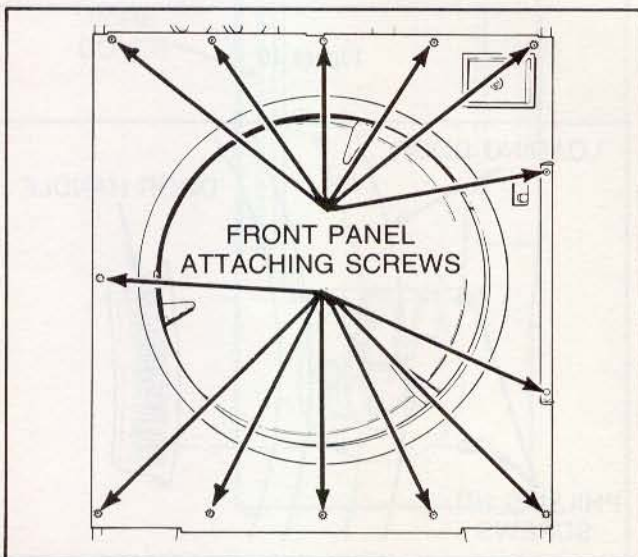

Figure 12
- g. Support front panel and remove Phillips head screws holding front panel to tumbler cabinet, *Figure 12*.